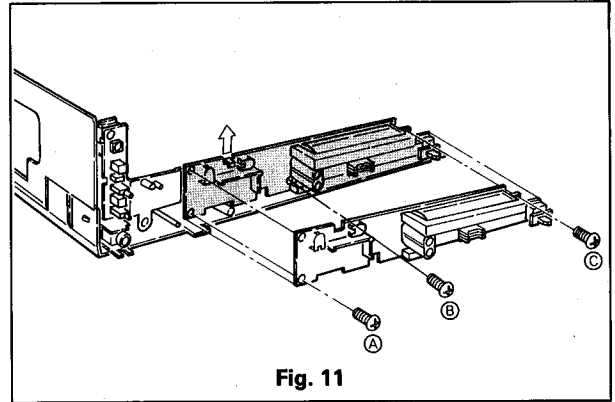

Fig. 11
- Remove the three screws (A) (B) and (C) retaining the PCB LED as shown in Fig. 11.
- Unlock the PCB SUPPORT (D) shown in Fig. 11 and remove the PCB.